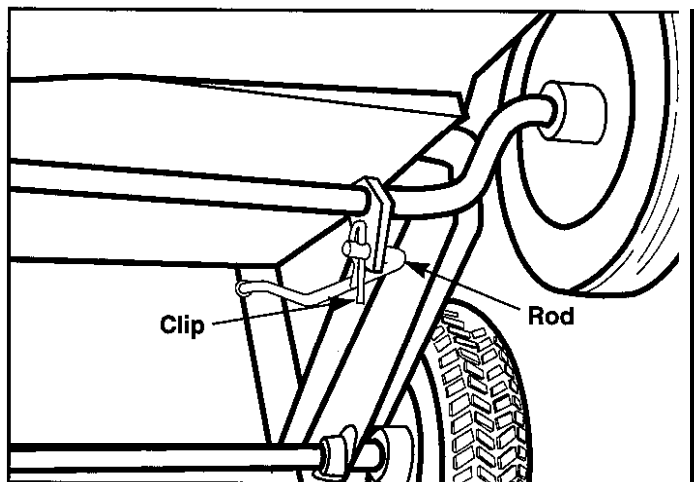

Figure 52. Disconnect Adjustment Rod
2. See figure 52. Have someone tilt the unit all the way back until you can see the adjustment rod and clip. Remove the clip from the height adjustment rod and pull the rod free of the front axle.
4. See figure 52. Reattach the rod to the front axle with the clip.